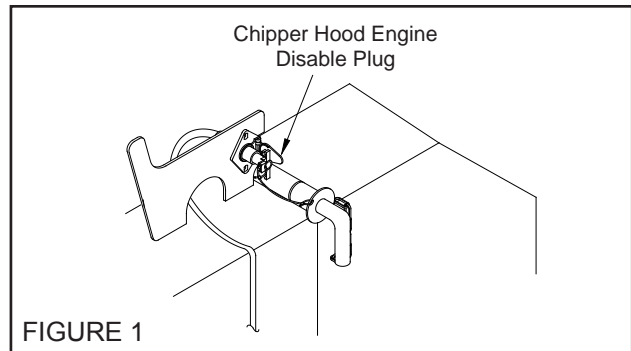
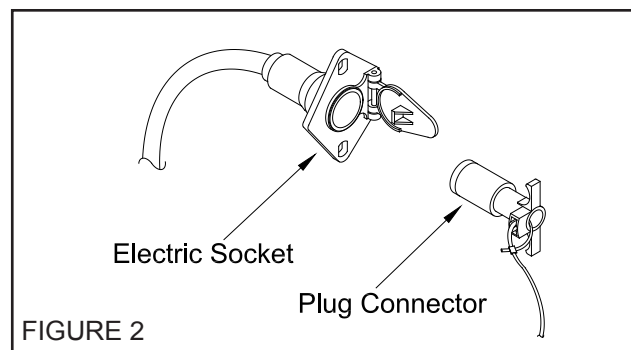
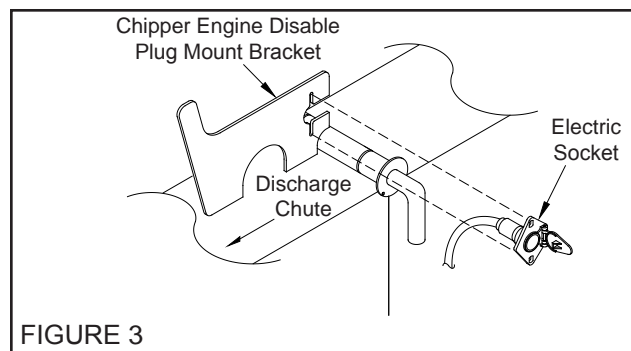

FIGURE 1
FIGURE 2
FIGURE 3
Install 5/16" (7.9 mm) diameter cable to pull and feed from the bottom of the winch drum (See figure 2). Remove excess bolt length on cable bolts after cable is secured to the spool.
5. Make sure everyone is clear and then retract the clutch lock pin and then pull the clutch handle up to engage the winch clutch (See Figure 1). Make sure handle is locked in position.
The chipper hood engine disable plug is located on top of the chipper hood (see figure 1). The chipper engine disable plug is made up of two parts: an electric socket and a plug connector (see figure 2). The electric socket is bolted to the chipper engine disable plug mount bracket (see figure 3) and the plug connector is attached by a cable to the hood pin (see figure 4).
The spring lock is located on the side of the chipper hood. The top of the spring lock should be directly behind the hood pin washer when the hood pin is properly installed in place holding the chipper hood in the closed position (see figure 1).
With the chipper hood shut and hood pin in place the spring lock helps keep the hood pin from sliding out or from being removed if the chipper disc is turning. There is a shaft cam block installed on the chipper shaft which will not allow the spring lock to be pulled down if the chipper disc is turning (see figure 2). When the chipper disc is turning, if the spring lock was to be pulled down or recessed it would simply hit the shaft cam block bouncing the spring lock back into position not allowing for the removal of the hood pin.